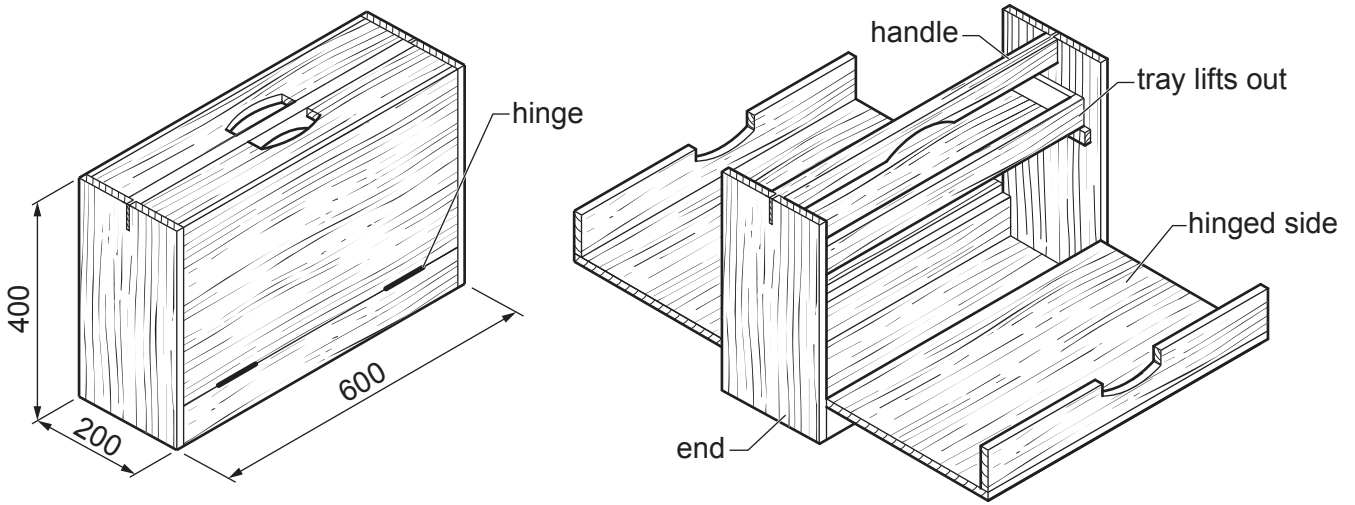

Fig. 11.1
11 Fig. 11.1 shows a portable toolbox made of softwood.
- (e) Use sketches and notes to show how the hinged sides shown in Fig. 11.1 could be held securely and prevented from opening when the toolbox is carried.
Give **three** advantages of using a toolbox made from plastic rather than the toolbox made from softwood shown in Fig. 11.1.